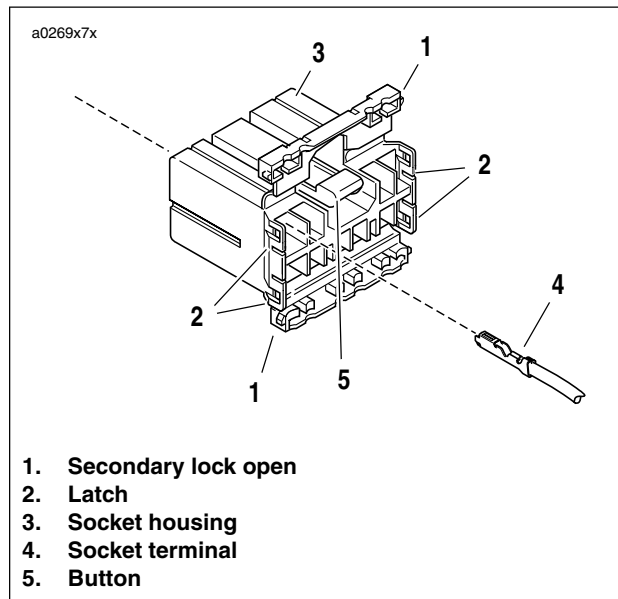

Figure B-4. Socket Housing
2. See Figure B-4. Depress the button (5) on the socket housing (3).